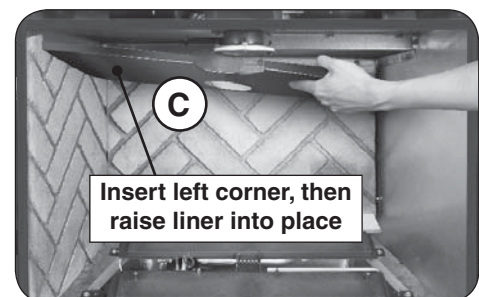

Fig. 31-5 Place top liner
6. Place the top liner into the unit as shown in Fig. 31-5, "C". It will be supported by the left liner.